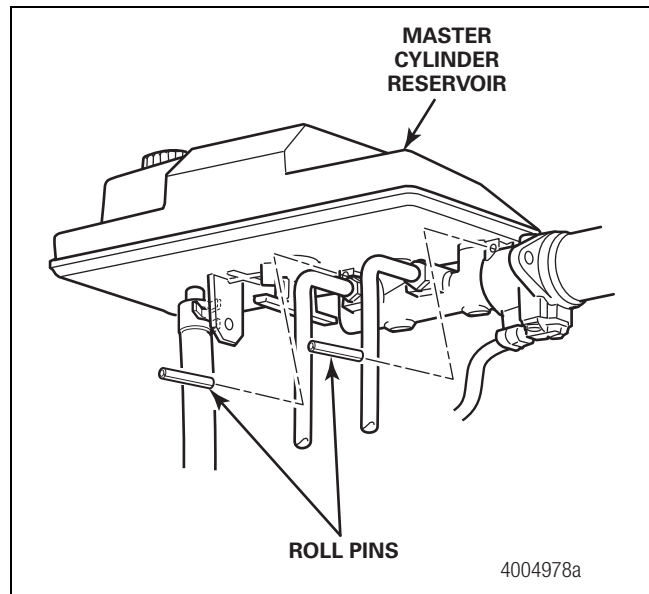

Figure 12
- C. Install the two new roll pins from the replacement kit. Drive the pins through the holes in the master cylinder boss and the reservoir mounting tab holes. Support the back of the tabs as you install each pin. Figure 12.